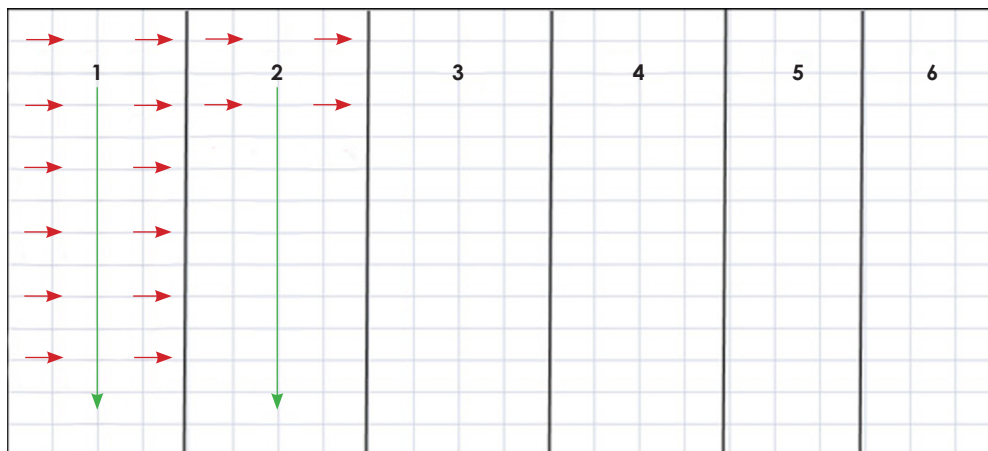

Figure 1: Wash Display Top-to-Bottom
4. Use horizontal brush strokes to loosen and remove dirt and grime on the display, washing from top-to-bottom in vertical columns. Refer to **Figure 1**. Use light pressure to avoid damaging the LEDs. Clean an area that is safely within reach from a lift or stage, and then move on to the next section of modules. Wash in small sections that can be rinsed before the soapy water dries.